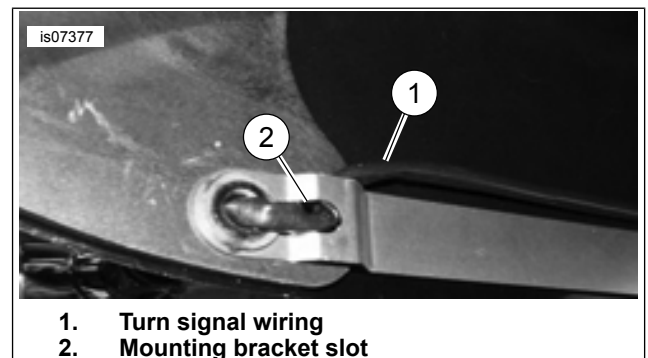
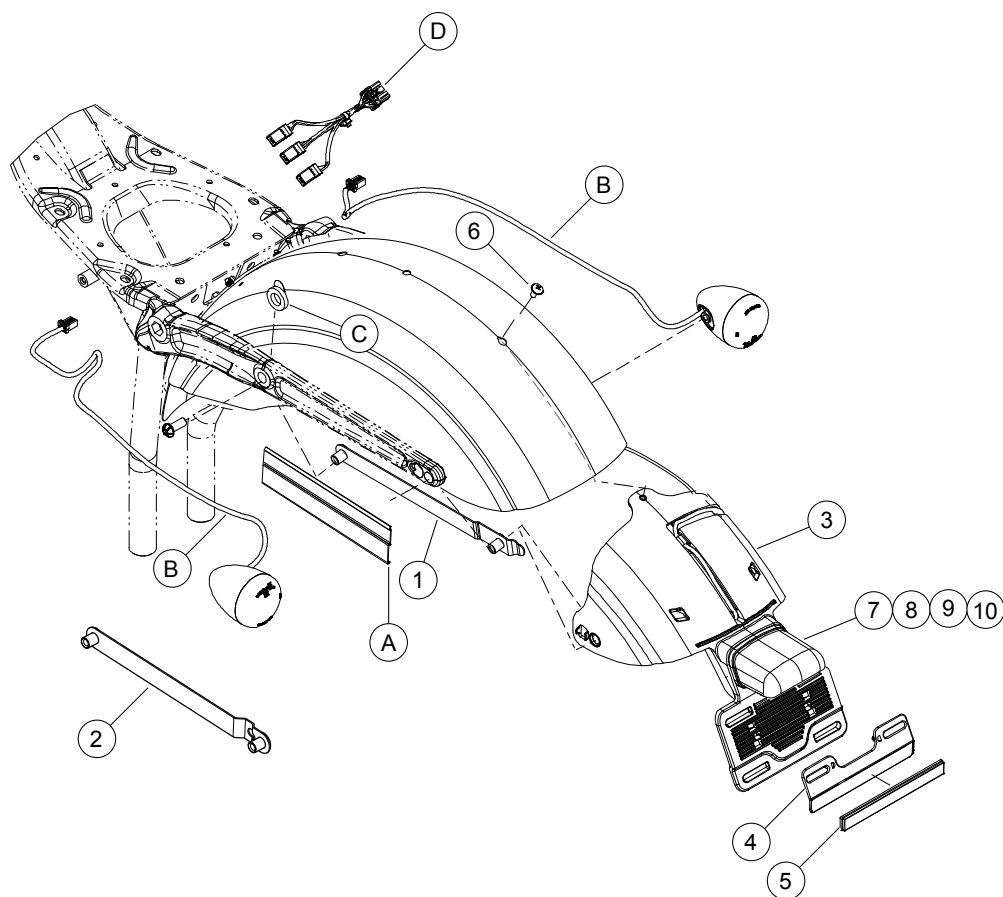

Figure 3. Wire Routing
Figure 4. Service Parts: License Plate Relocation Kit
See Figure 4 and Table 1.
12. See Figure 4. Get three **new** wires, one black (10), one violet (9) and one blue (8), from the kit.
13. Insert the tool between the outer edge of the rubber gasket (4) and the inside of the housing. Gently pry up the reflector (5) until free.
20. See Figure 4. Get the protective tubing (12) from the kit, and cut into two equal-length pieces.
1. See Figure 4. Refer to instruction sheets for the accessories being installed with this kit (i.e. saddlebags, uprights, or turn signal relocation kits). The license plate relocation kit must be installed along with these accessories.
3. Snap the plastic wiring channels (A) saved earlier, onto the new fender mounting brackets (2).
4. Place the center mount license plate module (3) underneath the fender and secure it with screw (6).
5. Fender mounting bracket is installed over the side hole in the license plate module (3) and secured with hardware from the saddlebag, upright or turn signal relocation kit. Repeat for the opposite side.
7. Remove adhesive backing from reflector (5). Place reflector on reflector bracket (4).
8. Snap reflector bracket (4) to license plate module.
9. Route license plate illuminator wire through the wire channel (A) on the right side fender mounting bracket. Connect socket connector from the illuminator wiring with the mating pin connector harness (18) on the vehicle.
10. Refer to the instruction sheet for the accessory being installed for turn signal wire routing instructions. Route the wiring through the wire channels. When using fender mounting brackets 57300020 the turn signal wiring must pass through slot in the mounting bracket before routing through the plastic wiring channels. See Figure 3. Connect the socket housings on the turn signal wiring with the mating pin connector on the rear lighting harness (F).